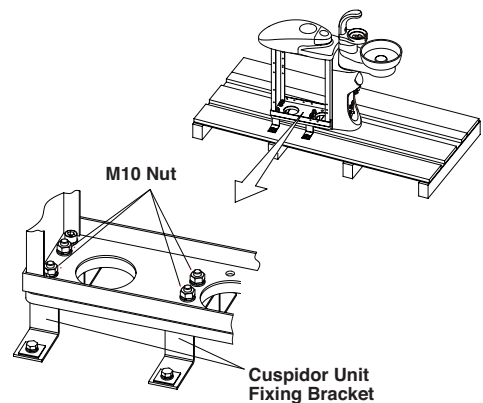

Fig.5-3 Removing the Cuspidor Unit
(2) Hold the cuspidor unit while on the pallet and remove four nuts (M10) in the cuspidor unit. (Fig.5-3)
(3) Lift up the cuspidor unit from pallet.